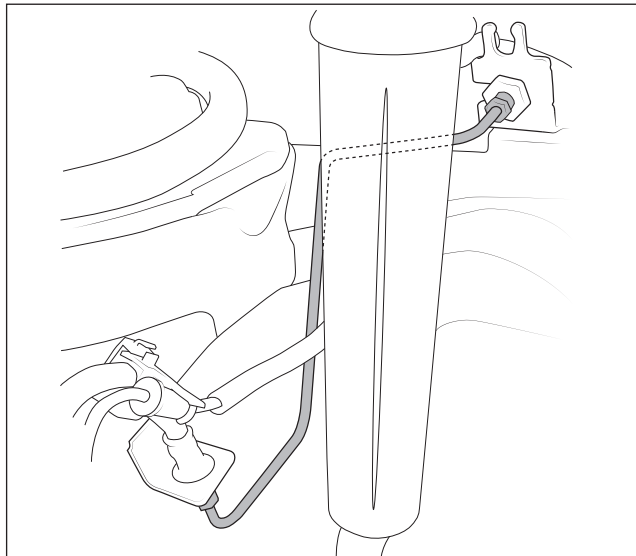

Figure 30
14. Install AEV steel brake lines between the factory flexible lines (fig. 30). **NOTE: On POWER WAGON, slight bending of the brake lines may be necessary for proper drive shaft clearance.**